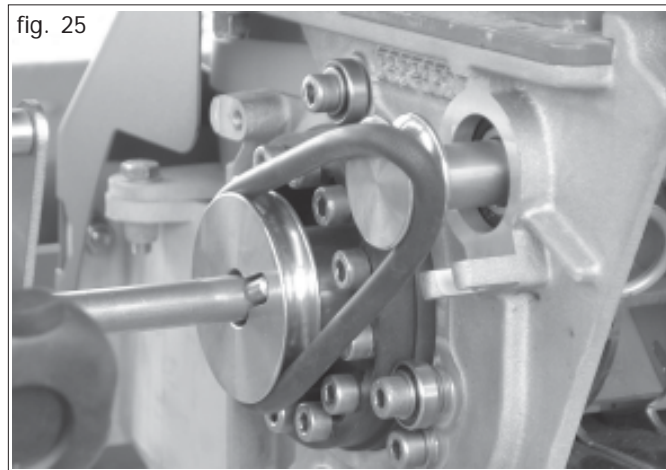

fig. 25
- To disable the agitator, lift the round belt above the edge of the drive pulley and, on the opposite side, rotate the dosing roller in the driving direction. The belt will come off (Fig. 25).